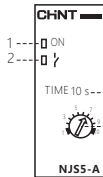
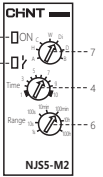
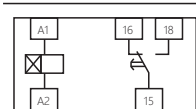
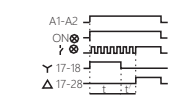

Figure 2 NJS5-A panel drawing
Figure 5 NJS5-M2 panel drawing
Figure 6
Figure 9
3.2 Panel drawing: see Figure 2~ Figure 5; wiring diagram: see Figure 6~ Figure 9; operation time sequence chart: see Figure 10~ Figure 20.